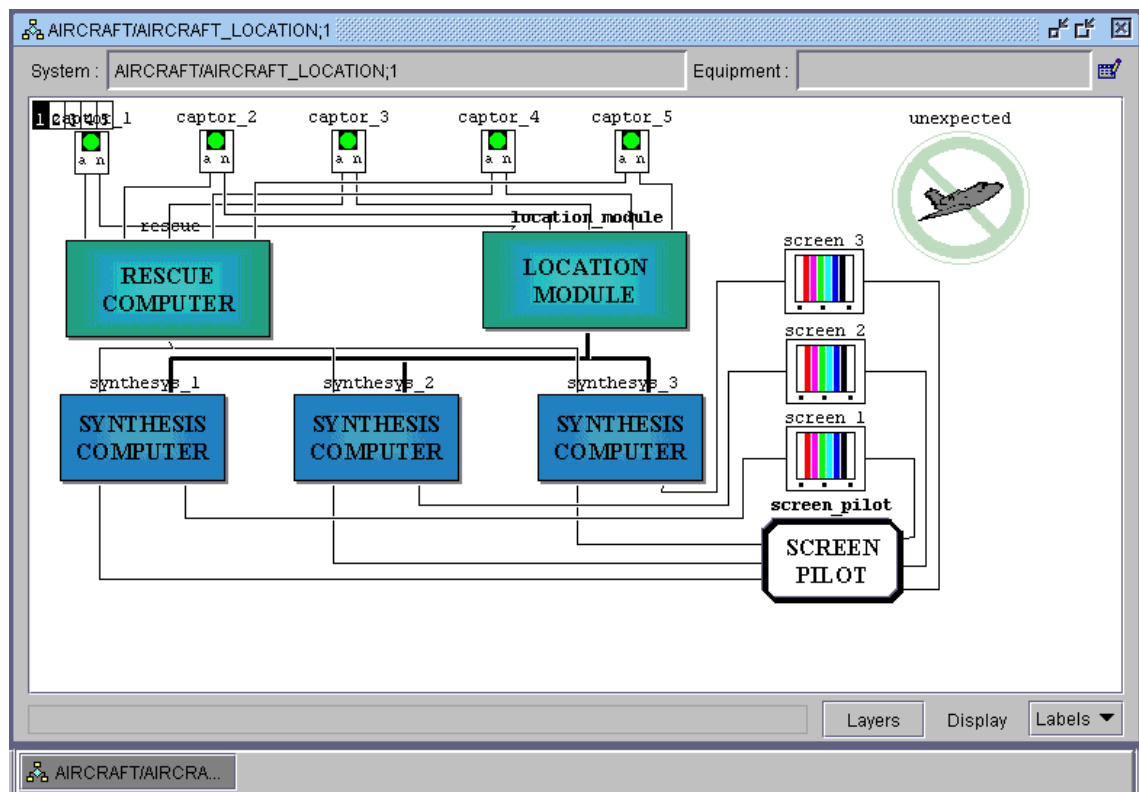

Figure 139 : Architecture example with links
- ◆ The overall system architecture with its entire links is displayed in the work area (Figure 139).